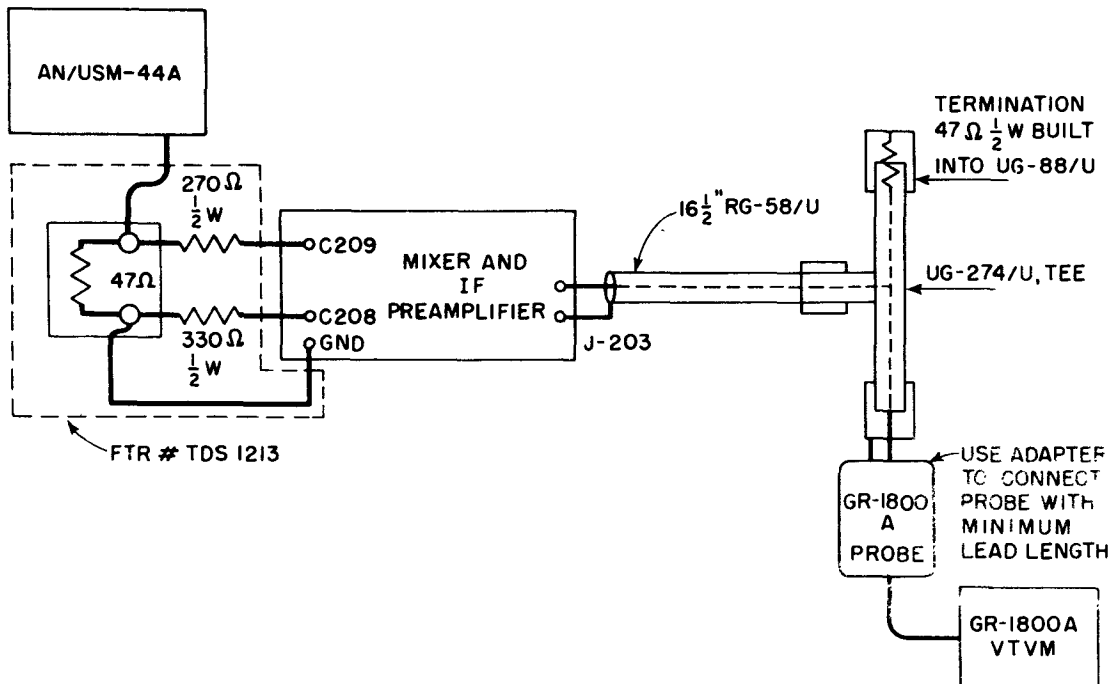

Figure 6-13. Test Circuit for Alignment Preamplifier
7. Components shown in test setup of figure 6-13.
Step 2. Connect equipment as shown in figure 6-13.
Step 1. Connect signal generator as shown in figure 6-13. Remove tee UG-274/U and connect cable RG-58/U from jack J203 on preamplifier to plug P303 on i-f amplifier.